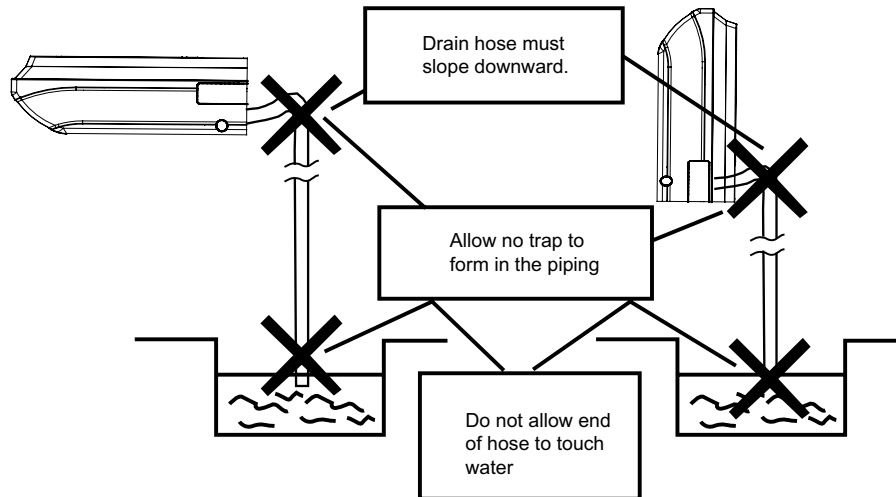

Figure 3-1-32
(4). Connect the drain hose.( Figure 3-1-32)